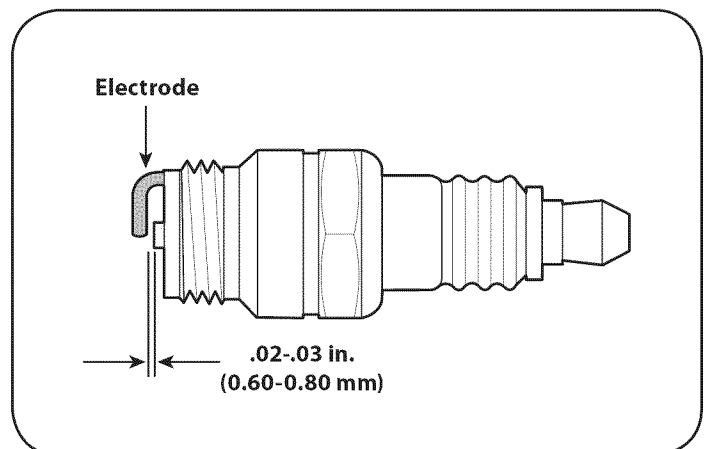

Figure 15
- Measure the plug gap with a feeler gauge. Correct as necessary by bending side electrode. See Figure 15. The gap should be set to .02-.03 inches (0.60-0.80 mm).